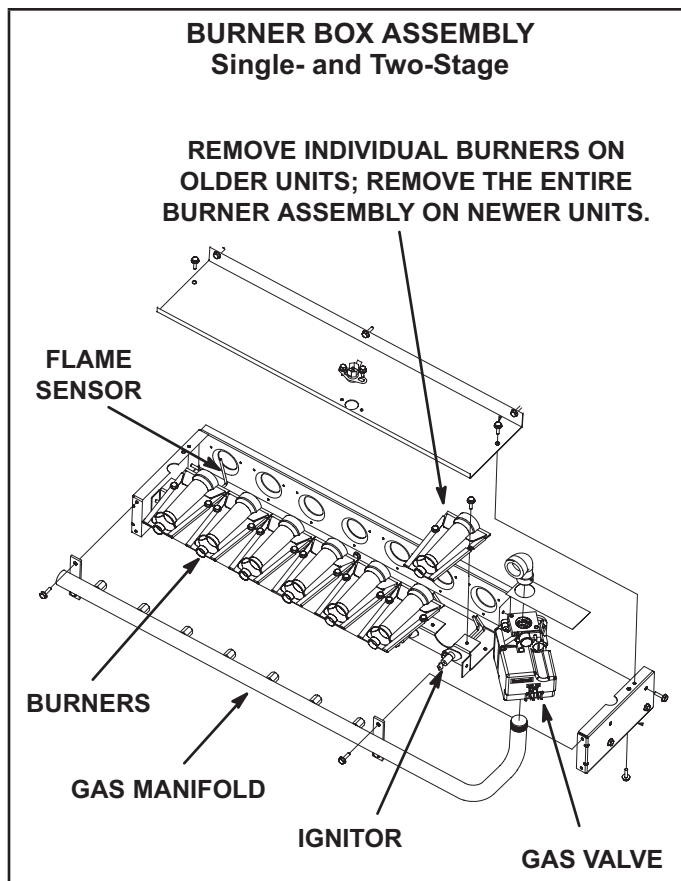

FIGURE 39
- 4 - Remove screws securing burners to burner support and lift the individual burners or the entire burner assembly from the orifices. See FIGURE 39. Clean as necessary.
- 6 - Replace burners and screws securing burner. See FIGURE 39.